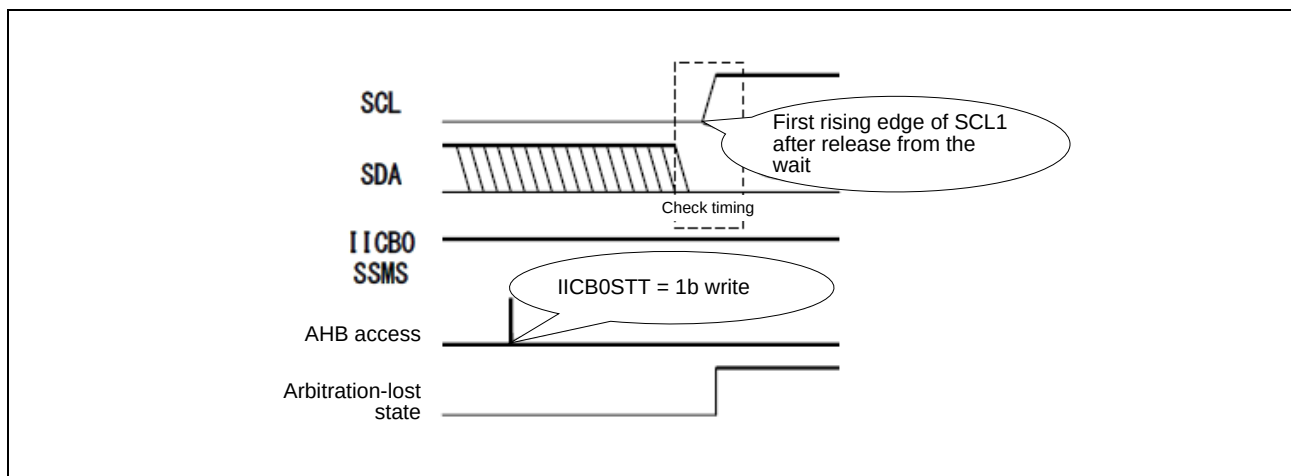

Figure 29.6-13 Arbitration-Lost State in (9)
Figure 29.6-13 shows the arbitration-lost state in (9).